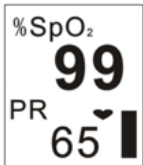
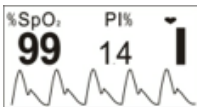
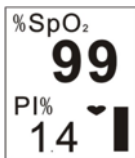

Figure 5
Figure 6
Figure 7
- Press Display Key twice, display screen will be changed as Figure 5.
- Press Display Key three times, display screen (as shown in Figure 5) will be flipped 180°.
- Press Display Key circularly, display screen will be switched between the two screens (as shown in Figure 4 and Figure 5), and four directions display alternately.
6. Longtime press Display Key (about 2 seconds), display screen will be shown as Figure 6. Differences between Figure 6 and Figure 4 are as follows
- In Figure 6, SpO2 and perfusion index are being monitored and displayed on the screen.
7. When the screen displays as shown in Figure 6, press Display Key circularly, the display screen will be switched between the two screens (as shown in Figure 6 and Figure 7), and four directions display alternately.
8. Display screen (as shown in Figure 6 or Figure 7) will return to the screen as shown in Figure 4 or Figure 5 if without operation in 10 seconds